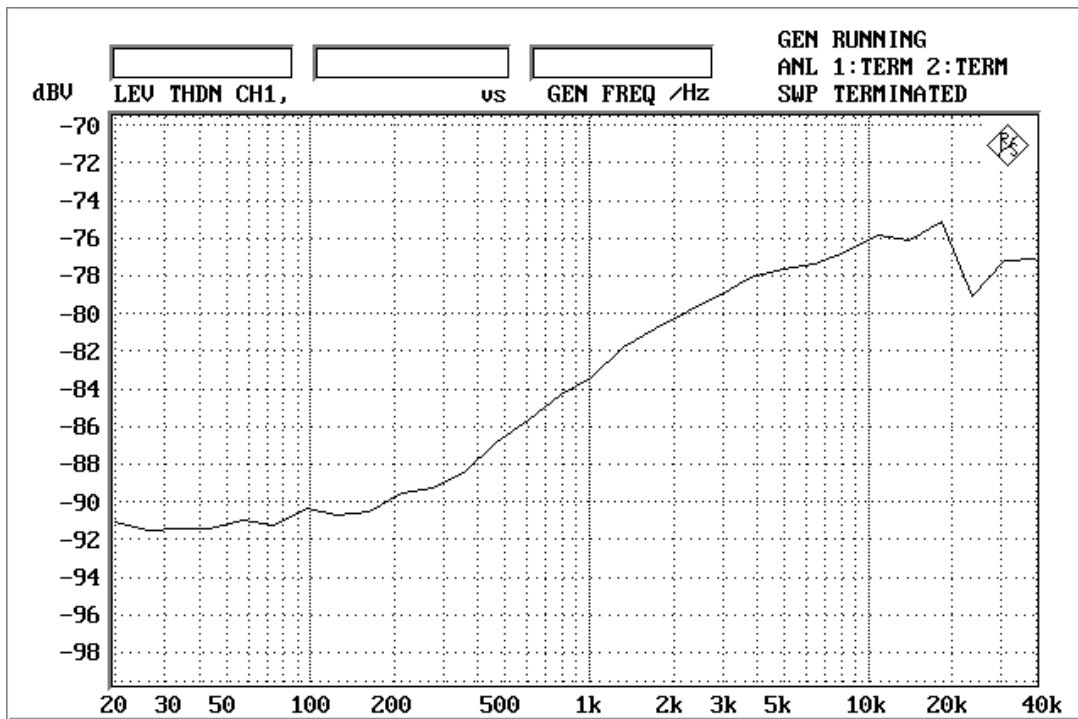

Figure 1-2-2. THD+N vs. Input frequency
- Figure 1-2-2. THD+N vs. Input frequency